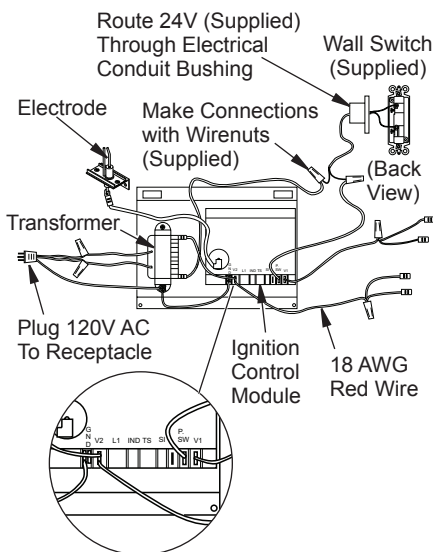
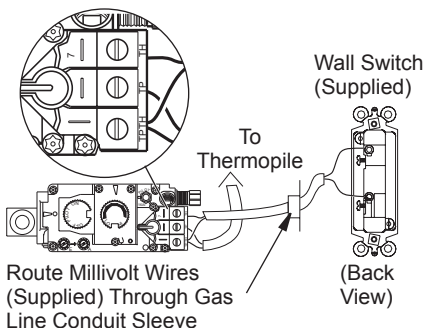

Figure 31 - Wall Switch Wiring Diagram, Electronic Units
Figure 32 - Wall Switch Wiring Diagram, Millivolt Units
The electronic version uses a 24 VAC current supplied from a transformer mounted on the ignition module and is prewired for easy connection to a wall switch (see Figure 31). The millivolt version uses a self generated millivolt current that allows you to activate the gas control valve directly without the use of normal household electricity (see Figure 32). Both versions are supplied with a wall switch kit for ready connection and mounting.
2. If a wall switch was installed, it must be removed from ignition control circuit for remote to work properly. Remove wire nuts from switch connection at ignition control module. Using wire nut, connect transformer (blue) wire to remaining wire connected to control terminal marked P.S.W. (see Figure 31, page 19).